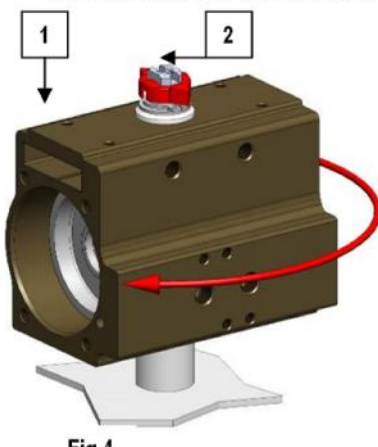

Fig.4
8. Rotate the cylinder ( 1 ) in clockwise direction (top view) holding the pinion ( 2 ) so as to release the rack of the pistons ( 12 ) from the pinion ( 2 ) and to push the pistons towards to the cylinder ends. Now both pistons ( 12 ) can be removed see Fig. 4.